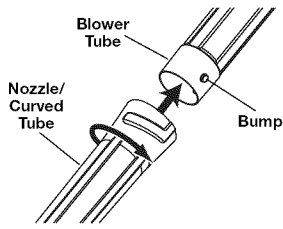

Fig. 2
1. Align the bump slot on the top end of the nozzle/curved tube with the bump on the end of the blower tube (Fig. 2).
2. Place the nozzle onto the blower tube (Fig. 2).
3. Twist the nozzle clockwise until tight (Fig. 2).